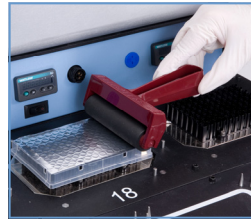

Figure 4. Roll film to ensure a good seal.
2. The instrument will dispense 25.5 µl of Master Mix 1 and 2 to the DNA plate and then pause. Seal the plate with PCR Plate Sealer (Figure 4) and place it in position 19 at 95 °C.